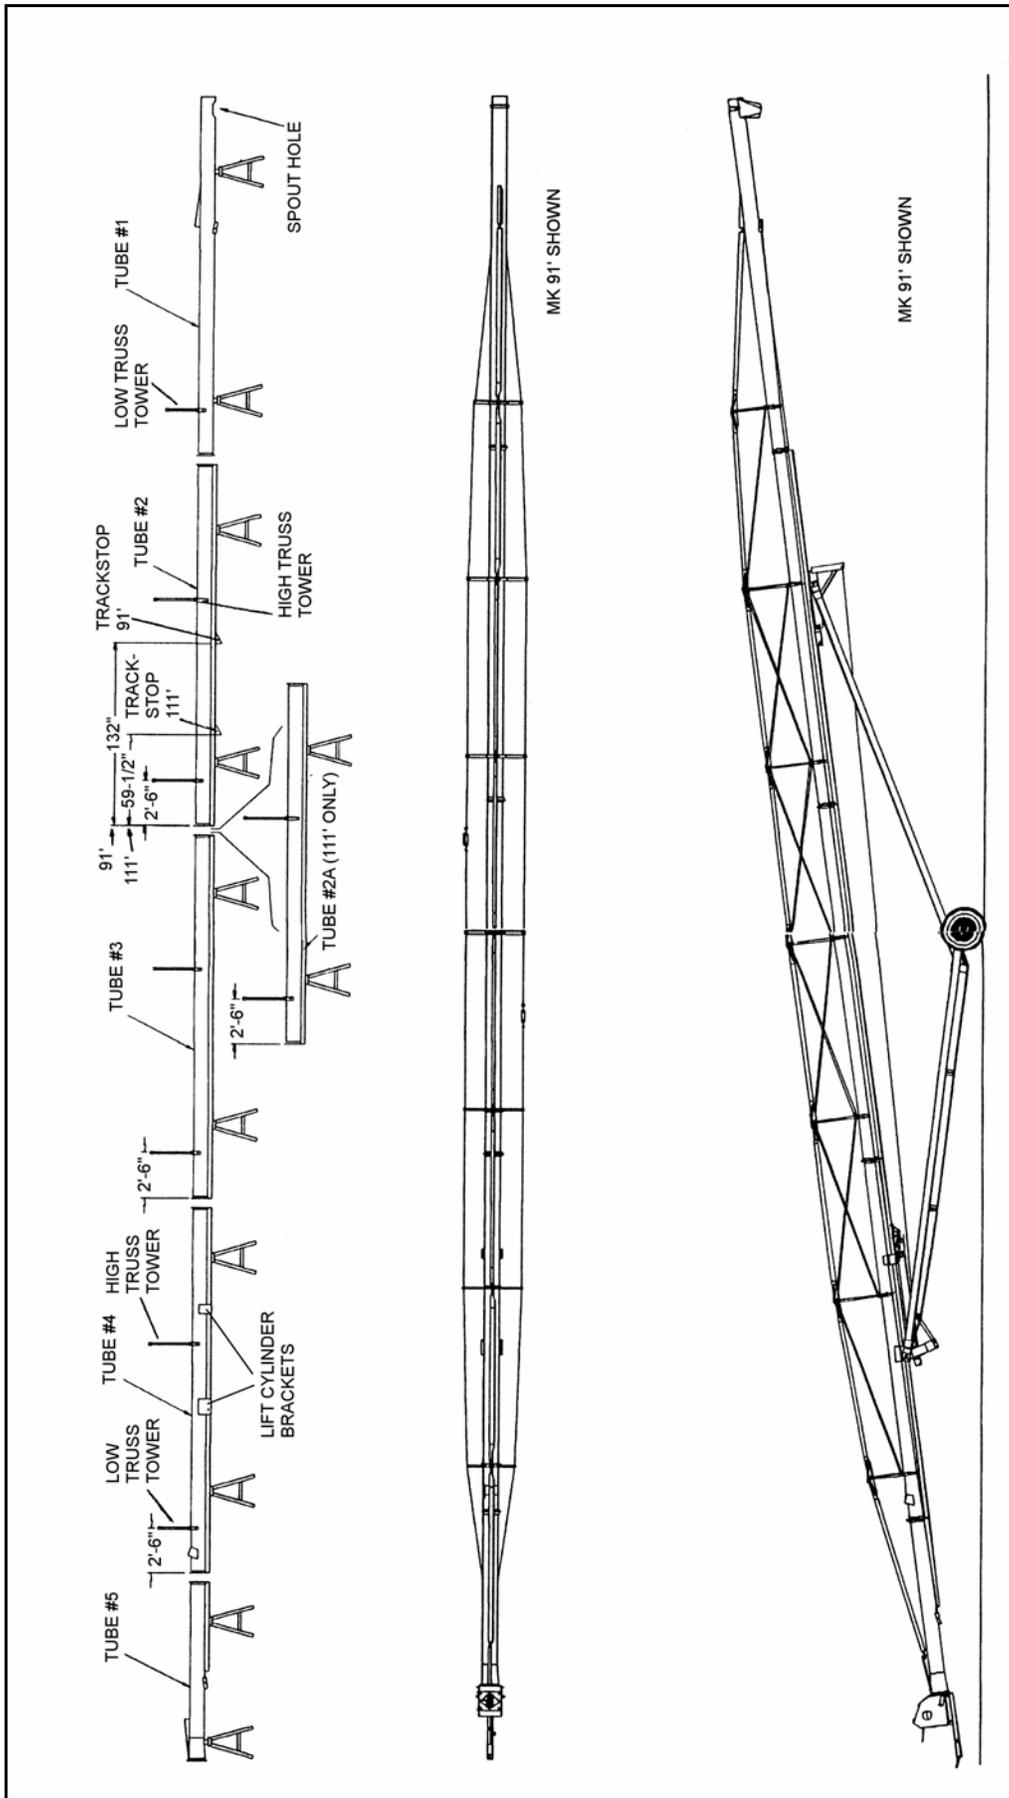

Figure 3.14
2. Insert eyebolts into adjust bracket (E) and thread on nut about 1/2".
3. Starting between the third and fourth truss-cable supports on one side, and fourth and fifth supports on the other side (see Figure 3.14), loosely attach the truss cables to each truss-cable support with a 5/16" cable clamp as shown in 3.6.1.